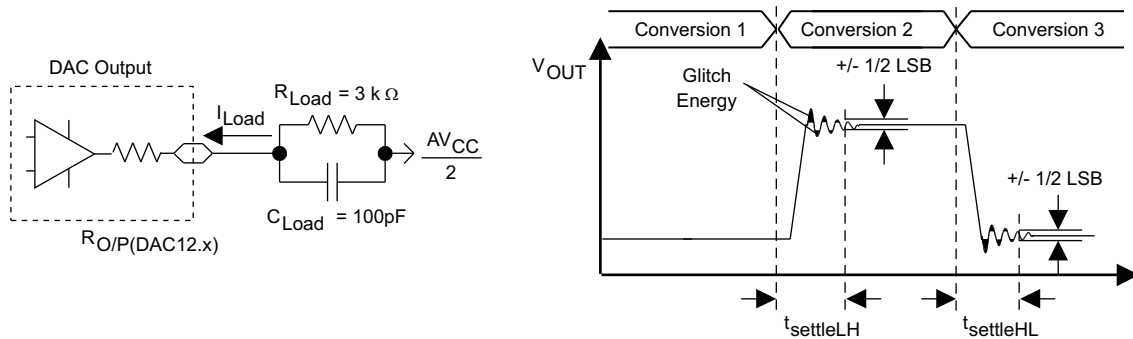
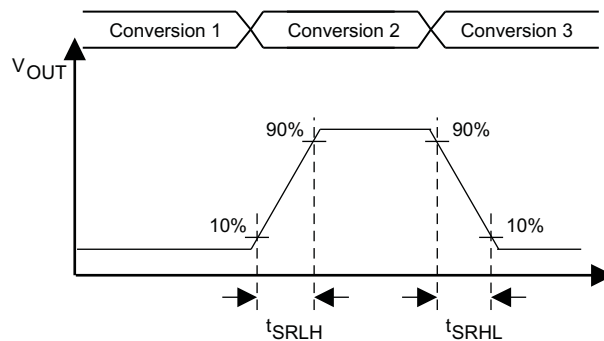

Figure 5-24. Settling Time and Glitch Energy Testing
Figure 5-25. Slew Rate Testing
$V_{ref} = V_{CC}$, DAC12IR = 1, over recommended ranges of supply voltage and operating free-air temperature (unless otherwise noted) (see Figure 5-24 and Figure 5-25)
- (1) R_{Load} and C_{Load} connected to AV_{SS} (not $AV_{CC}/2$) in Figure 5-24.
(2) Slew rate applies to output voltage steps ≥ 200 mV.